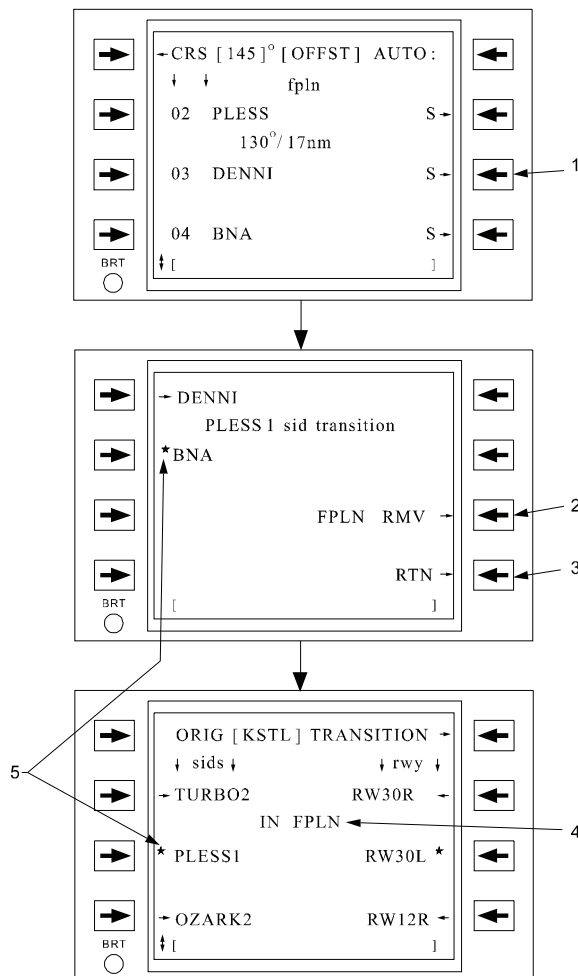

Figure 3B-75. Active Flight Plan SID/STAR Procedure
(4) When modified, the modified procedure becomes the working copy definition for the SID/STAR. Modification of the SID/STAR definition on the SID/STAR pages does not affect the active flight plan procedure until the operator chooses to modify the flight plan with the new procedure. The working copy definition of a SID or STAR is accessed from the EDIT menu. Refer to Figure 3B-76 and Table 3B-56. When the working copy is defined, it can be used to modify the active flight plan procedure with the new definition.